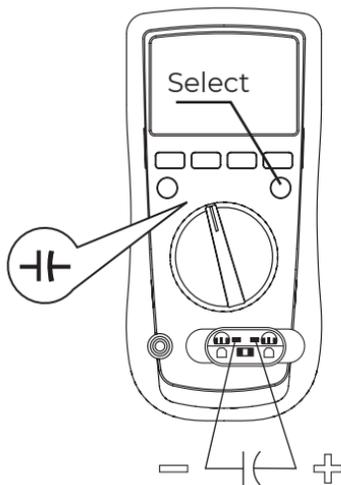

figure 7
- Connect the test leads to the proper terminals as said above to avoid an error on display. The LCD will display OL indicating diode being tested is open or polarity is reversed. The unit of diode is Volt (V), displaying the forward voltage drop readings.
F. Capacitance Measurement (See figure 7)